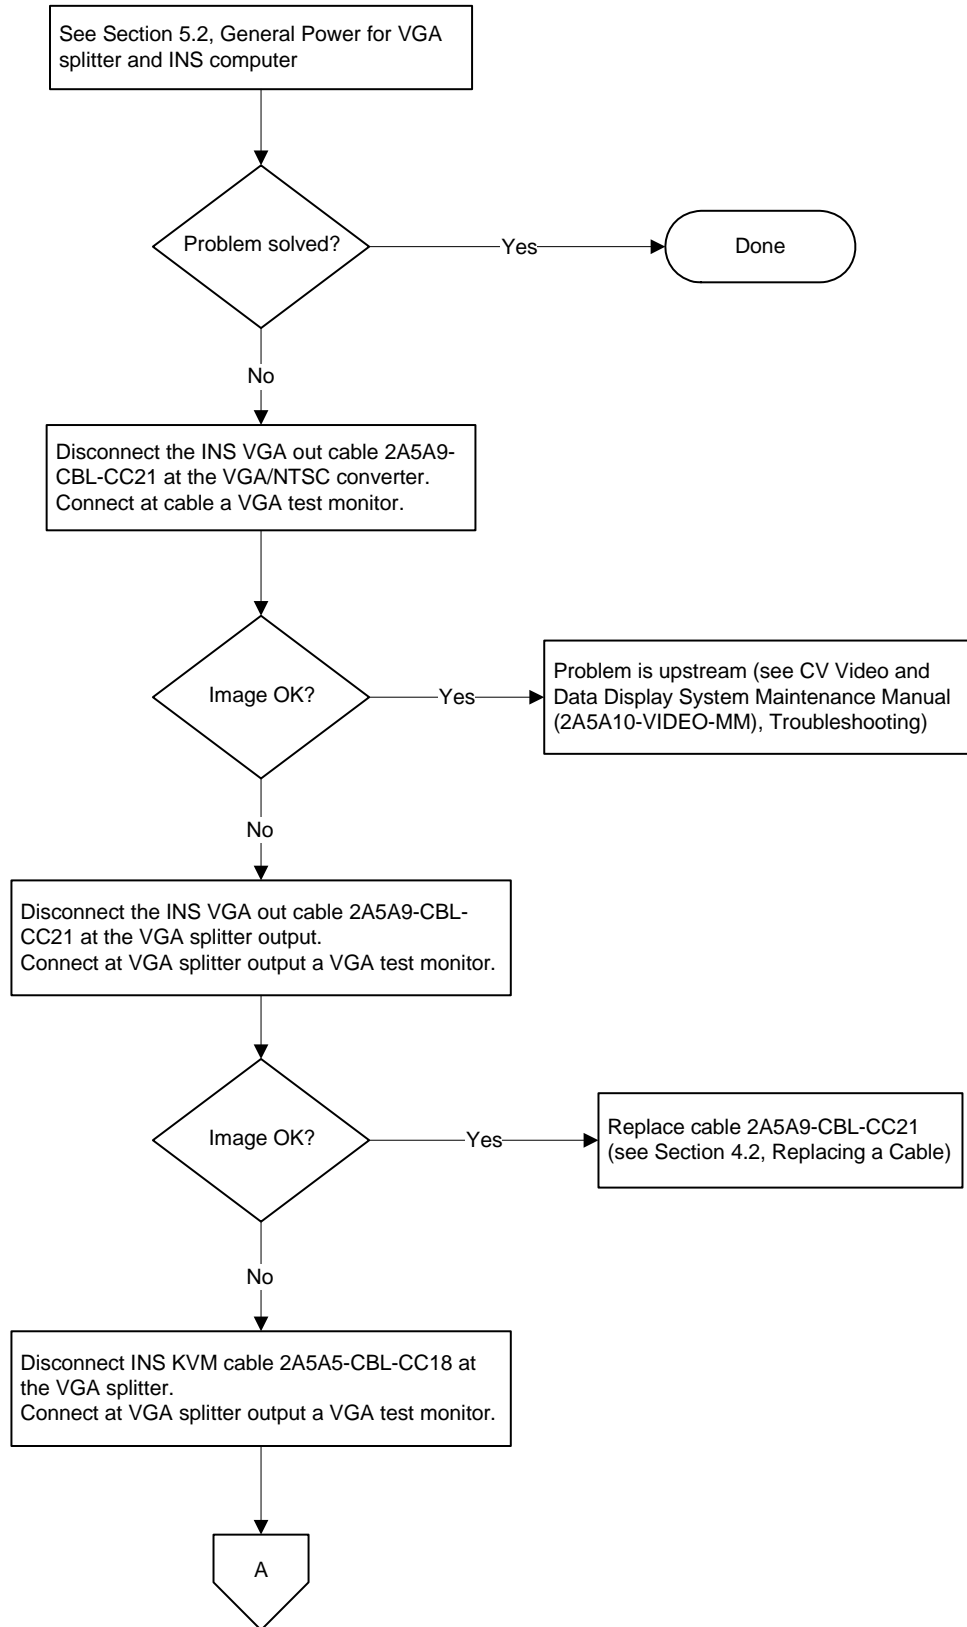
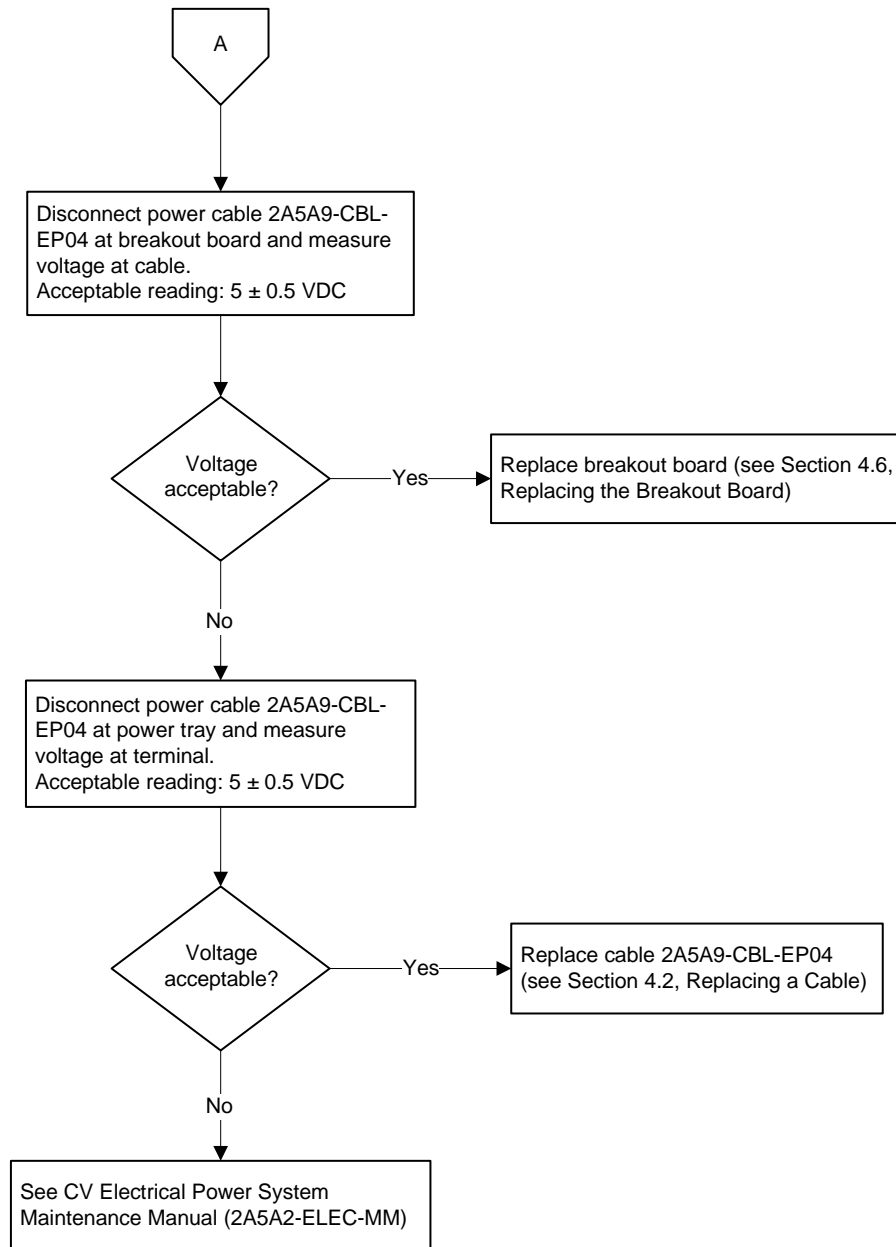

Figure 2 Troubleshooting – INS Computer Doesn't Display Image – Sheet 1
Figure 3 Troubleshooting – INS Computer Doesn't Display Image – Sheet 2
1. Follow the troubleshooting steps in Figure 2 and Figure 3.